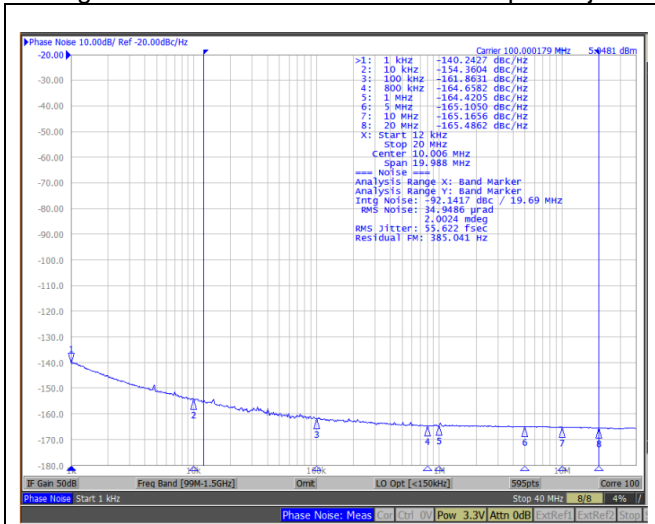
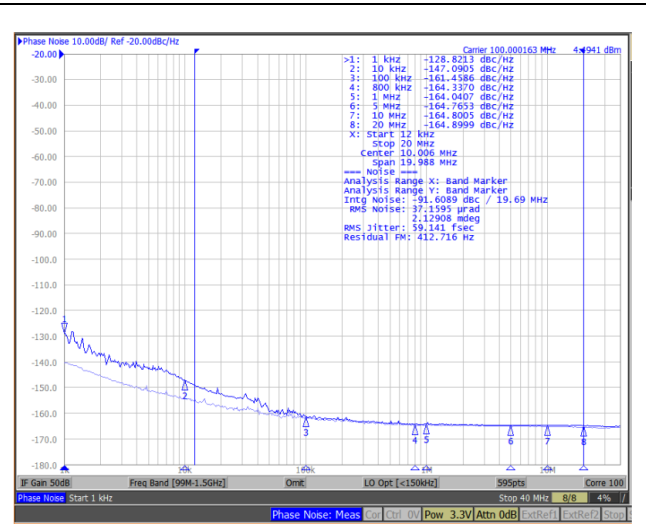

Figure 6, Reference Input Phase Noise @1.8V VDD
Figure 7, Input Phase Noise ( Light Blue) and Output Phase Noise (Dark Blue) @1.8V VDD,
- With an integration range of 12kHz to 20MHz (VDD is 1.8V), the reference input has about 55.62 fs of RMS phase jitter shown in figure 6, and the output of GM51104 has about 59.14 fs of RMS jitter shown in figure 7. This results in a low additive phase jitter is less than 20.1 fs.